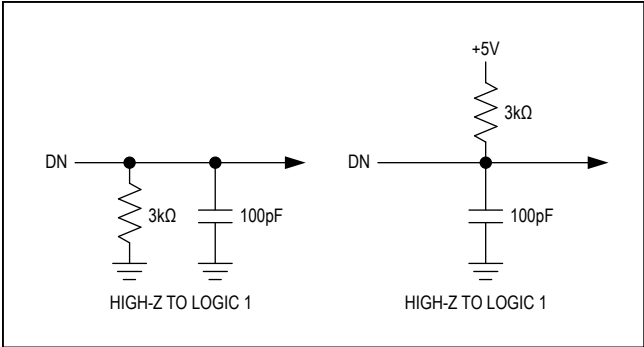

Figure 1. Load Circuit for Access Time Test
**Note 6:** Timing specifications guaranteed by design. All input control signals specified with  $t_R = t_F = 5ns$  (10% to 90% of +5V) and timed from a voltage level of +1.6V. See loading circuits in Figures 1 and 2.